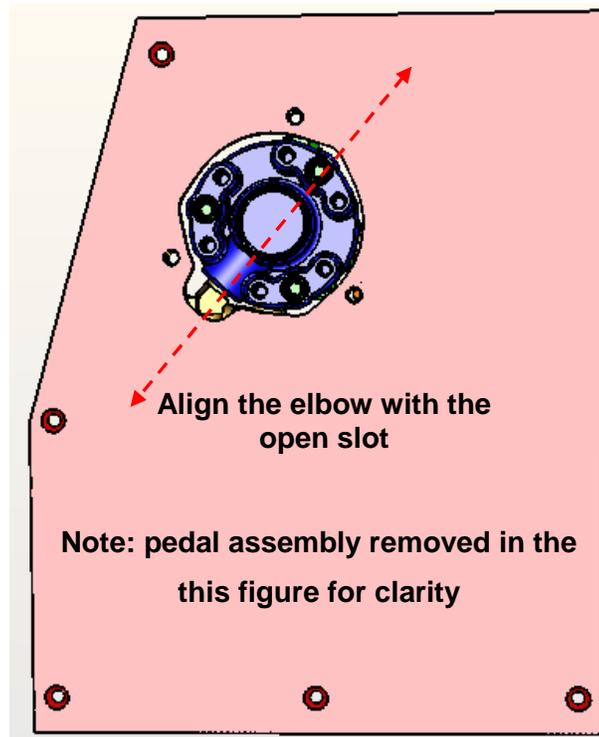

Figure 12: Align the BVA Valve with the New Plate
30. Align the BVA valve and the 45 degree elbow with the open slot in new plate as shown in Figure 12.